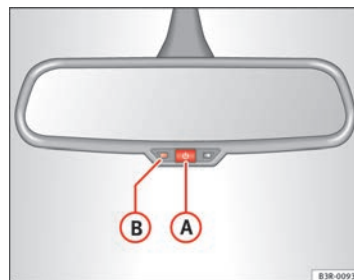

Fig. 103 Interior mirror with anti-dazzle setting: Indicator lamp and on/off switch
- Press button **A** ⇒ fig. 103. Indicator lamp **B** goes off.
- Press button **A** ⇒ fig. 103. Indicator lamp **B** turns on.